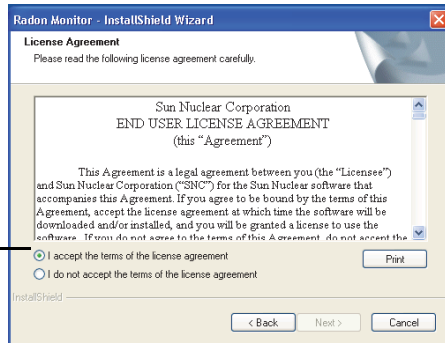

Figure 10. End User License Agreement, Windows XP
- 5 The License Agreement screen displays (Figure 10). Read and accept the terms of the license agreement and click **Next**.